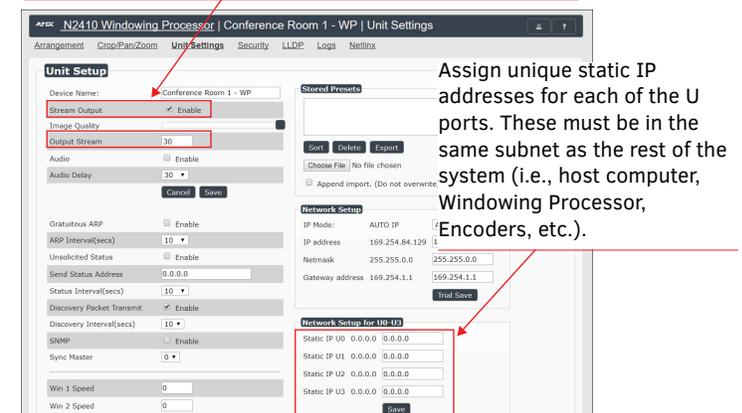

FIG. 4 UNIT SETTINGS
- Make changes on the **Unit Settings** page as shown in FIG. 4.